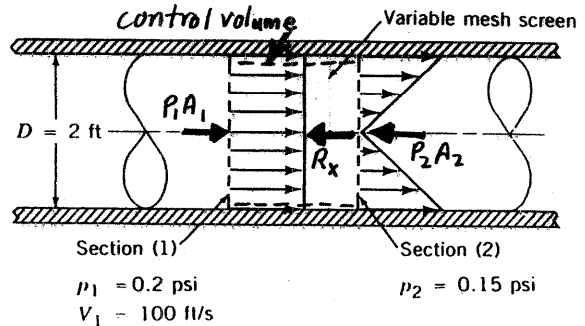

FIGURE P5.40
5.40 A variable mesh screen produces a linear and axisymmetric velocity profile as indicated in Fig. P5.40 in the air flow through a 2-ft-diameter circular cross section duct. The static pressures upstream and downstream of the screen are 0.2 and 0.15 psi and are uniformly distributed over the flow cross section area. Neglecting the force exerted by the duct wall on the flowing air, calculate the screen drag force.